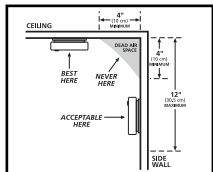

FIGURE 1
- When mounting an alarm on the ceiling, locate it at a minimum of 4" (10 cm) from the side wall (see figure 1).
- When mounting the alarm on the wall, use an inside wall with the top edge of the alarm at a minimum of 4" (10 cm) and a maximum of 12" (30.5 cm) below the ceiling (see figure 1).
at a minimum of 4" (10 cm) and a maximum of 12" (30.5 cm) below the ceiling (see figure 1).
Modern mobile homes have been designed and built to be energy efficient. Install smoke alarms as recommended above (refer to RECOMMENDED LOCATIONS and Figures 1 and 2). In older mobile homes that are not well insulated compared to present standards, extreme heat or cold can be transferred from the outside to the inside through poorly insulated walls and roof. This may create a thermal barrier which can prevent the smoke from reaching an alarm mounted on the ceiling. In such units, install the smoke alarm on an inside wall with the top edge of the alarm at a minimum of 4" (10cm) and a maximum of 12" (30.5cm) below the ceiling (see figure 1).